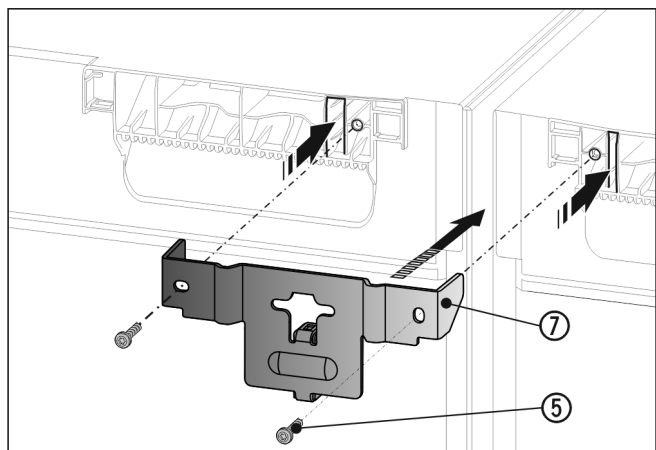

Fig. 18
- ▶ Slide the bracket Fig. 18 (7) onto the appliance ceiling with the lugs and with the spacer between the appliances. Screw in firmly with 2 screws Fig. 18 (5).